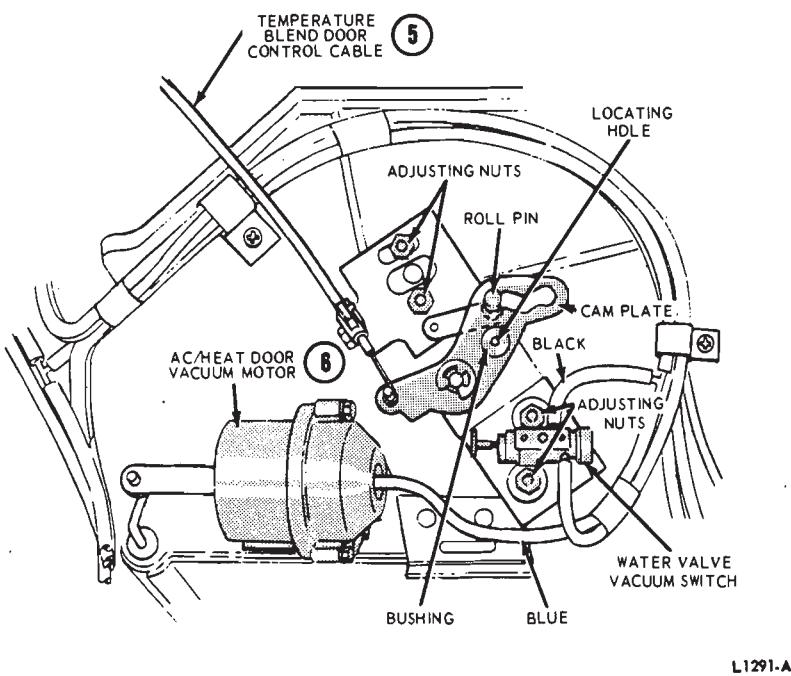

FIG. 33—Temperature Blend Door (5) Control Cable Bracket Assembly—Falcon, Fairlane, and Montego
et adjusting nuts (Fig. 33).
4. Insert a $1/8$ -inch pin in the locating hole in the cam plate (Fig. 33) and down into the hole in the mounting plate bushing.
5. Rotate the cam plate and mounting bracket clockwise with the $1/8$ -inch pin in place, until the temperature blend door (5) touches the evaporator wall firmly. Then, tighten the two mounting bracket adjusting nuts.
1. Loosen the water valve vacuum switch adjusting nuts (Fig. 33).
5. Adjust the temperature blend door (5) cable turnbuckle with the temperature control in the minimum heat position. Allow approximately $1/8$ inch bounce back on the lever from the end of the slot.